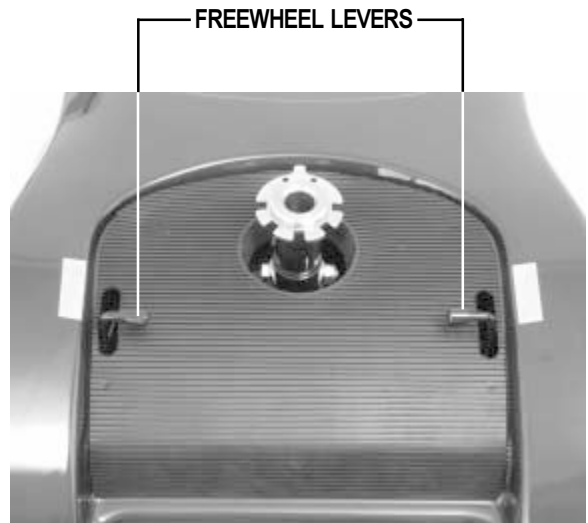

Figure 6. Drive Engaged
2. Turn the freewheel levers inward, to engage the drive motors. See figure 6.